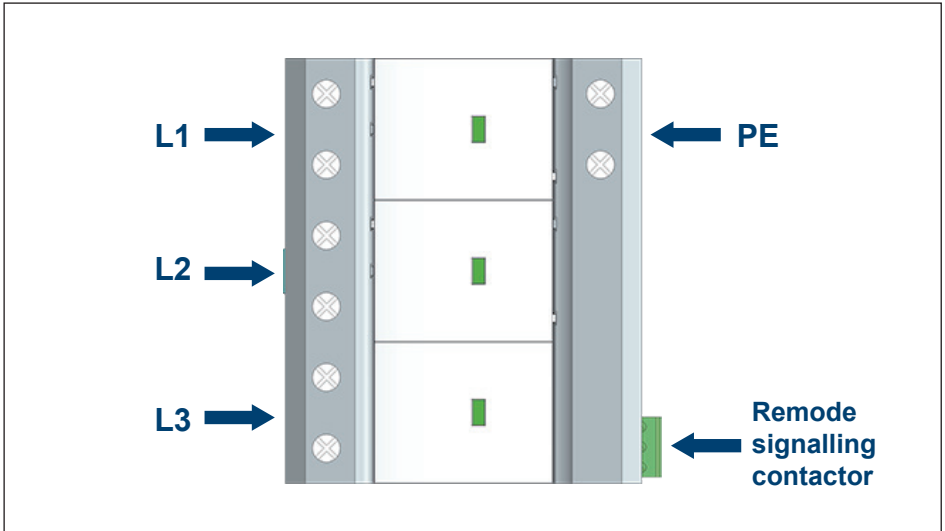
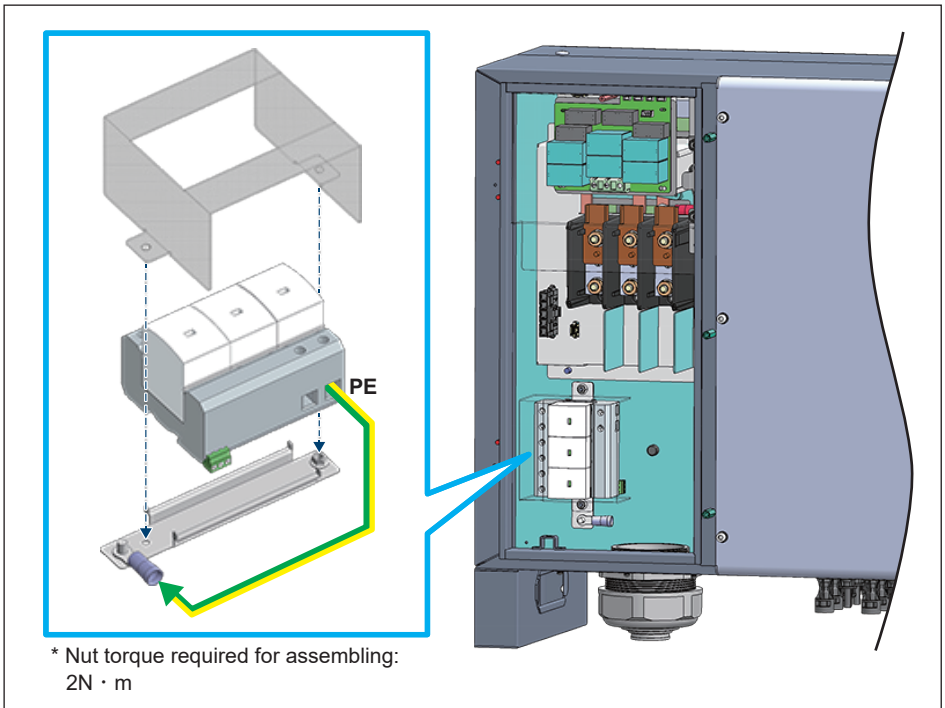

Figure A-8: SPD wiring of wires with spare parts refer DIN rail manual
Figure A-9: Install the SPD and shield cover to the track
2. SPD wiring of power, PE and signal wires with spare parts refer DIN rail manual (**Figure A-8, Figure A-9**).